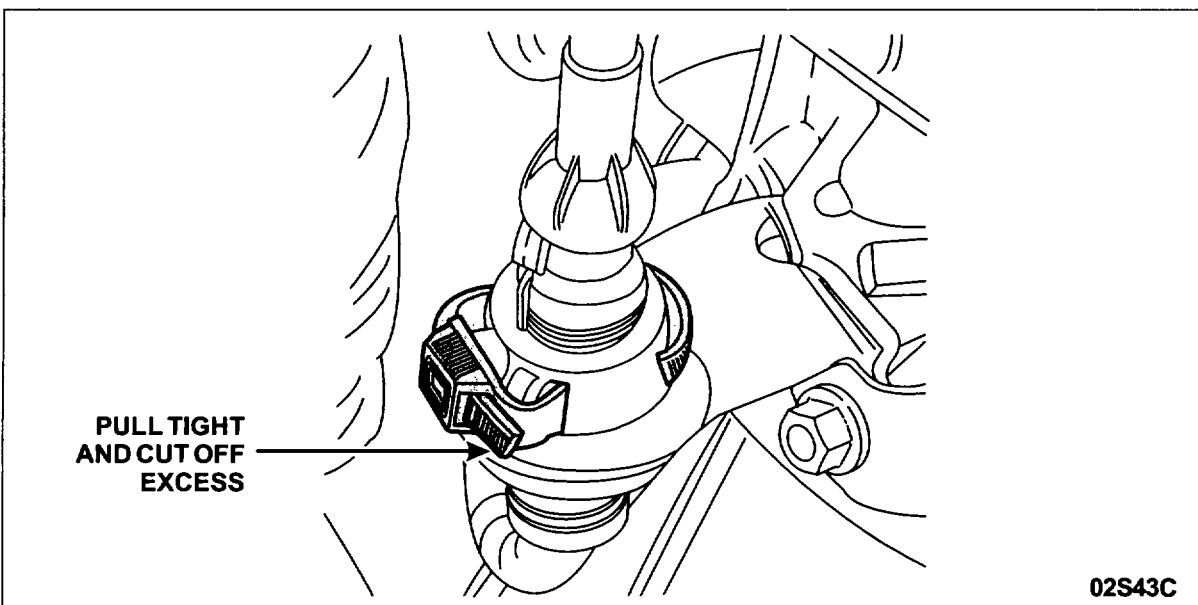

FIGURE 3
5. Pull the tie strap tight, then cut off the excess. See Figure 3.